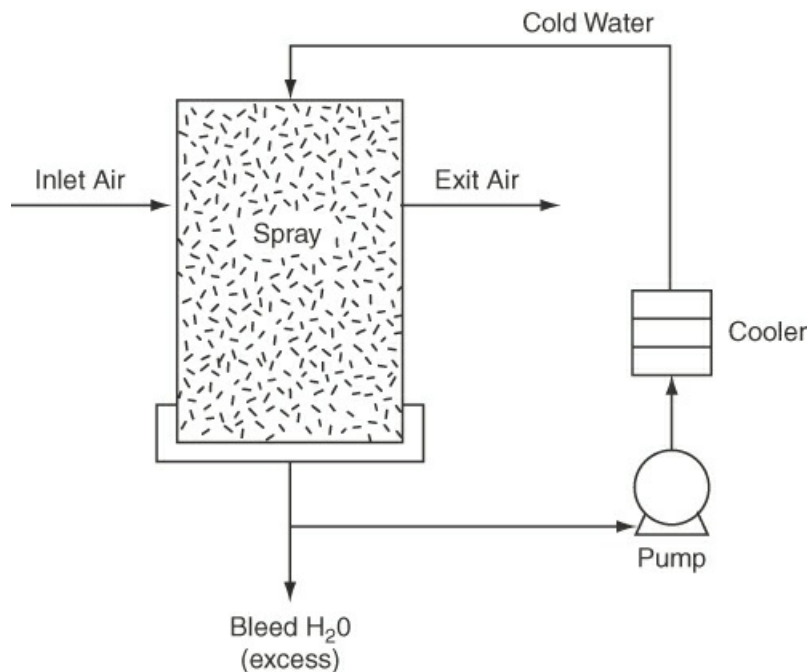

Figure SAT10.3P1
1. A process that takes moisture out of the air by passing the air through water sprays sounds peculiar but is perfectly practical as long as the water temperature is below the dew point of the air. Equipment such as that shown in Figure SAT10.3P1 would do the trick. If the entering air has a dew point of 70°F and is at 40% RH, how much heat has to be removed by the cooler, and how much water vapor is removed, if the exit air is at 56°F with a dew point of 54°F?